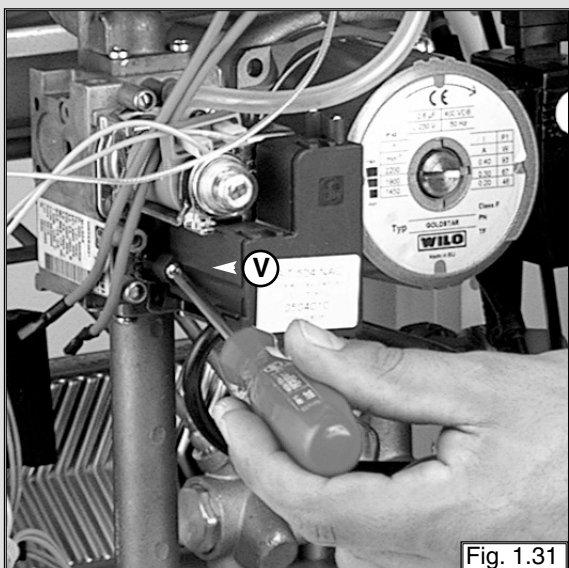

Fig. 1.31
2. Remove the screws “V” (see fig. 1.31) with a Pozidrive No. 2 star tip screwdriver;